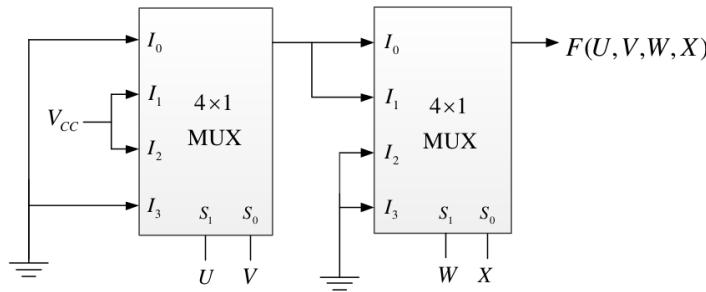

Fig. 4.16
30. A four-variable Boolean function is realized using  $4 \times 1$  multiplexers as shown in the Fig. 4.16. The minimized expression for  $F$  is (GATE EC 2018)